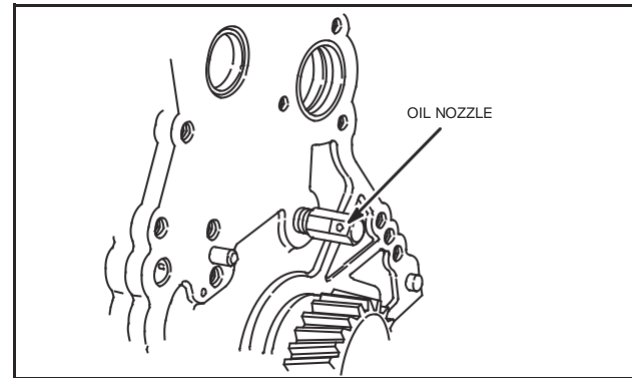

Fig. 11 – Removing Oil Nozzle
2. Remove timing gear oil nozzle, Fig. 11.